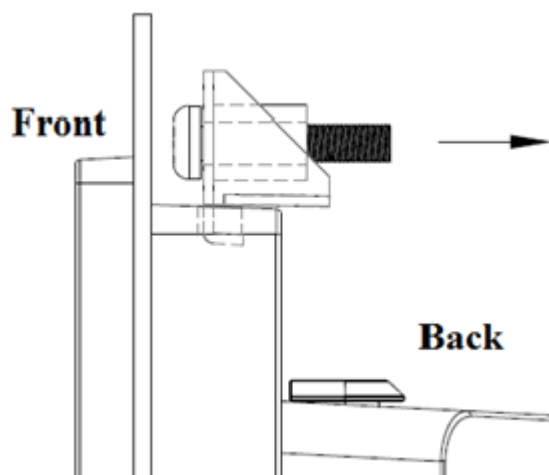

Figure 2.9 Hook bracket locations
3. Insert the hook brackets into the holes following the direction of the arrows shown in Figure 2.9 and hang the panel PC.